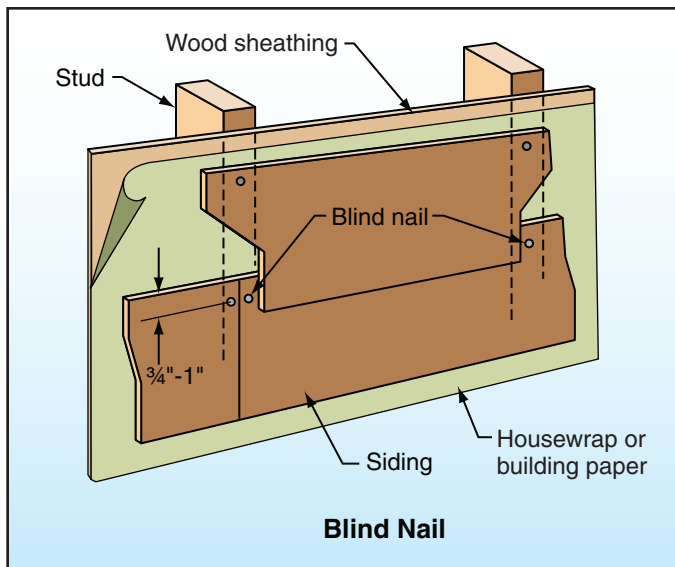

Figure 10. Blind nailing.
- Keep blind nails between $\frac{3}{4}$ " and 1" from the top edge of the panel (Figure 10). Be sure to drive nails at least $\frac{3}{8}$ " from butt ends, or use manufacturer-specified joiners.